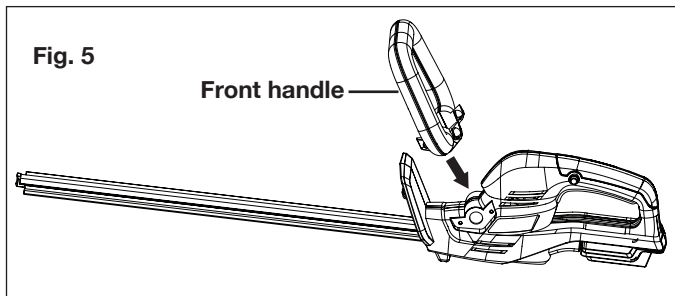

Fig. 5
1. Snap the front handle into place on the unit. (Fig. 5).